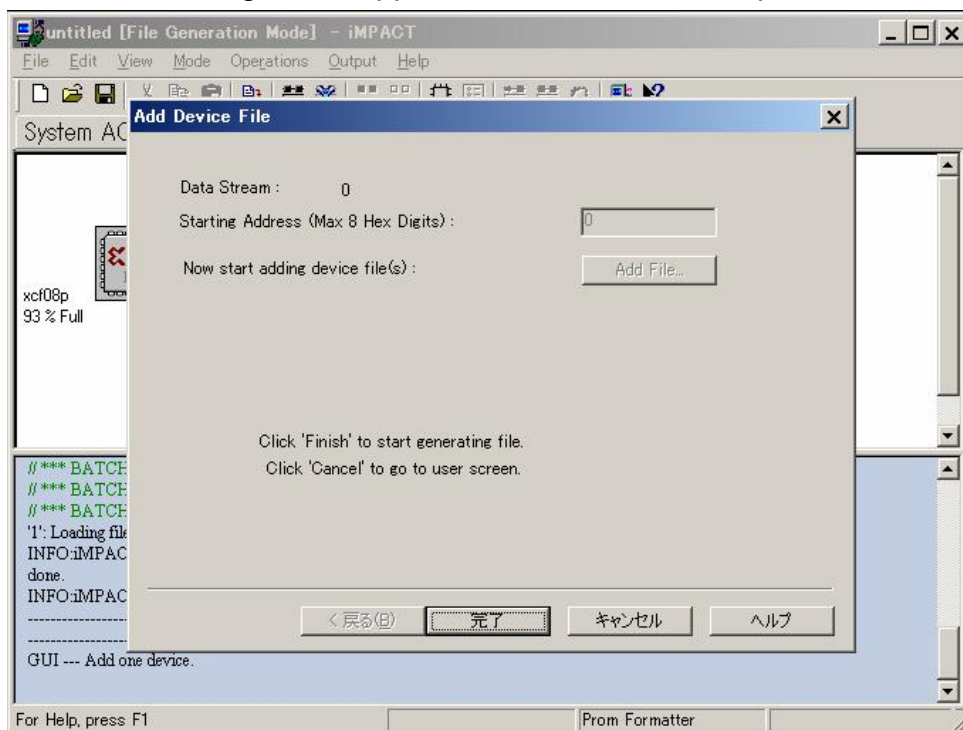

Figure.24
10) A screen as shown in Figure.24 appears. Click on the Complete button.